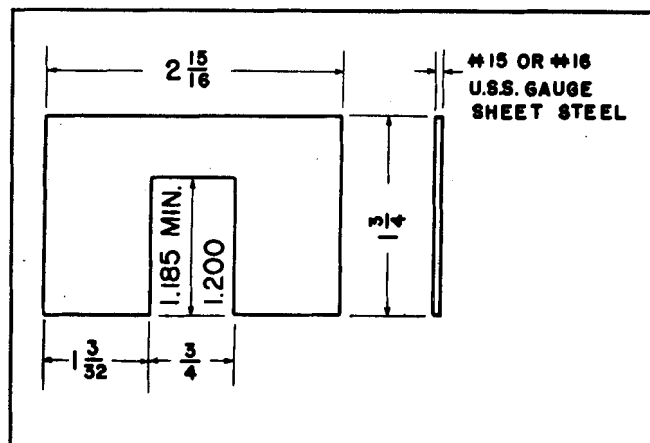

Fig. 5C-10 Push Rod Gauge
ASSEMBLY OF PUSH ROD BOOT AND MASTER CYLINDER TO POWER UNIT (Fig. 5C-1)
2. Before mounting master cylinder, check distance A (Fig. 5C-9) from hydraulic push rod to master cylinder mounting face on front shell. This dimension A, as shown in Figure 5C-9, should be 1.200". If push rod length is not correct, follow adjustment procedure below. When push rod length is correct, attach master cylinder to power section with lockwashers and nuts. Tighten nuts to 24 lb. ft. torque.